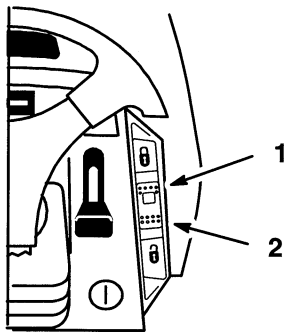

Figure 13
The cruise control is optional on some models. A 3 position: Set-Lock (spring loaded), On and Off-Unlock dash switch (Fig. 13) controls the engagement. Cruise control maintains the traction control position without foot pressure. Cruise control is intended for operation in the forward direction only. Do not use cruise control in reverse.
1. Begin driving tractor: Refer to Driving Forward or Backward, Page 15. While holding your foot steady on the traction control, push the cruise control switch (Fig. 13) to the “SET”–“LOCK” position.
1. While holding your foot steady on the traction control, move the cruise control switch (Fig. 13) to the “UNLOCK”–“OFF” position.